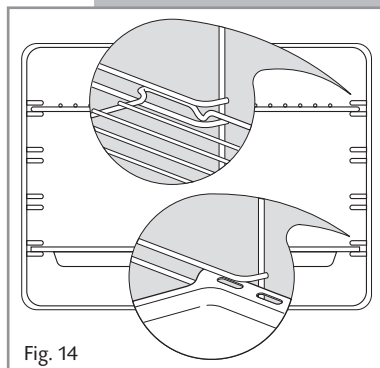

Fig. 14
- Slide the tray and rack into the runners (Fig. 14). The rack must be fitted so that the safety catch, which stops it sliding out, faces the inside of the oven.